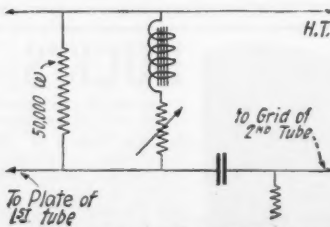

Fig. 5. How a choke coil and series resistance are connected in the circuit.
2.5 henries will be much less effective, but the four taps will enable you to vary the ratio of high and low notes considerably. Perhaps a simpler way to make this easily variable is to stick to a .6 henry and vary a series resistance in series with it. This is illustrated in Fig. 5.